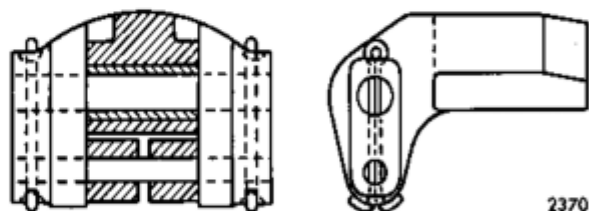

Fig. 40. Governor Weight Assembly
Always use new split pins of correct size and length with equal legs when reassembling. Before fitting the split pins bend slightly about half way along their lengths to ensure a tight fit in their holes. After fitting, open the legs and bend them so that they are firmly bedded round the radius of the governor weight toe as shown in Fig. 40.
- (3) Determine the length of the actual spring to be used, when loaded to the figure given in the table for the particular maximum speed concerned. Initial assembly is then made with a tubular distance piece in place of the spring. The length of this distance piece **MUST** be made precisely the same as that of the spring when compressed to the working load given in the table above.
- (4) With the governor weights fully closed, the distance piece in position and the cam set as above, adjust the governor spring lever screw (Fig. 40), until the rounded toes at the lower end of the lever touch the end face of the spring guide. Fit the stop pegs in the lever arms and file each peg to give .002 in. (.051 mm.) clearance from the face of the governor case.
- (5) Fit the spring in place of the distance piece.
- (6) Readjust the governor spring lever screw to restore the .002 in. (.051 mm.) clearance between the stop pegs and governor case.